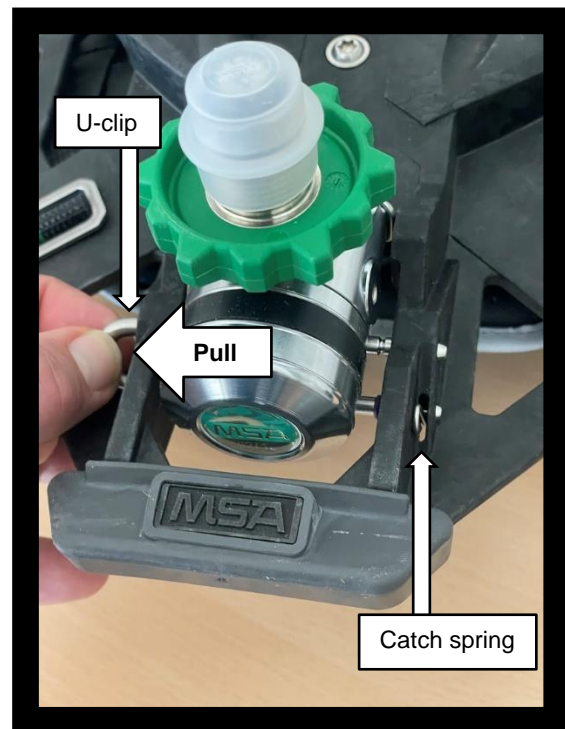

Figure 4 – Check U-Clip Operation
2. Once assembly is confirmed, pull the U-clip towards the left side as shown. (figure 4)